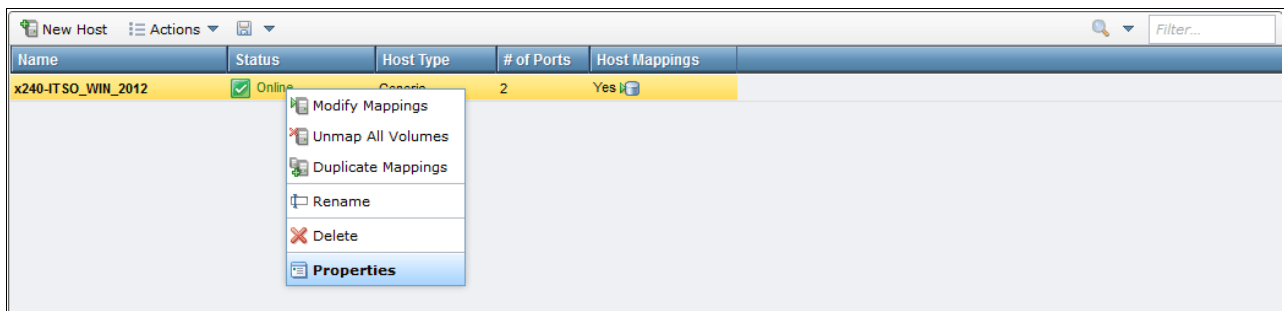

Figure 12-3 Host properties
1. Right-click your Windows 2012 Fibre Channel host in the All Hosts view (Figure 12-3) and select **Properties**.